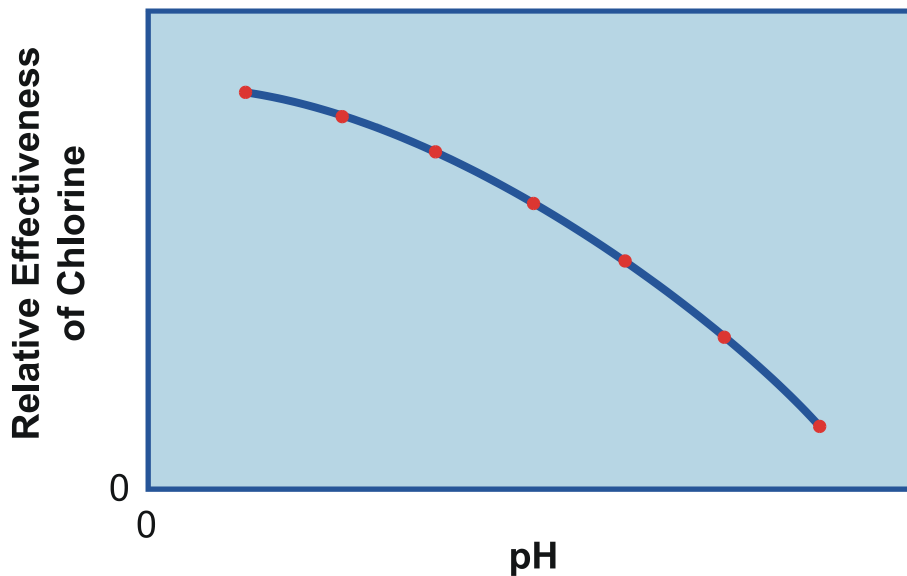

Figure 25.3 The Relationship Between pH and Disinfection When Using Chlorine.
Figure 25.3 shows how the effectiveness of chlorine decreases as the pH increases.
**Display Slide 8 (Figure 25.3)**